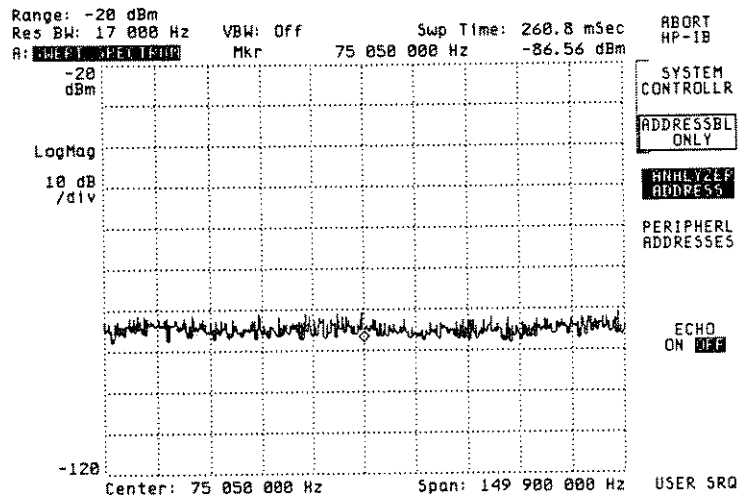

Figure 1-4. HP 3588A Screen After Pressing
4. Verify that the analyzer's address is set to 19. The current address setting is displayed when you press the [ANALYZER ADDRESS] softkey (see figure 1-4). You can change the address by pressing [ANALYZER ADDRESS], then using the numeric keypad and the [ENTER] softkey to enter a new value. However, the instructions in the verification procedure assume that the analyzer address is set to 19.